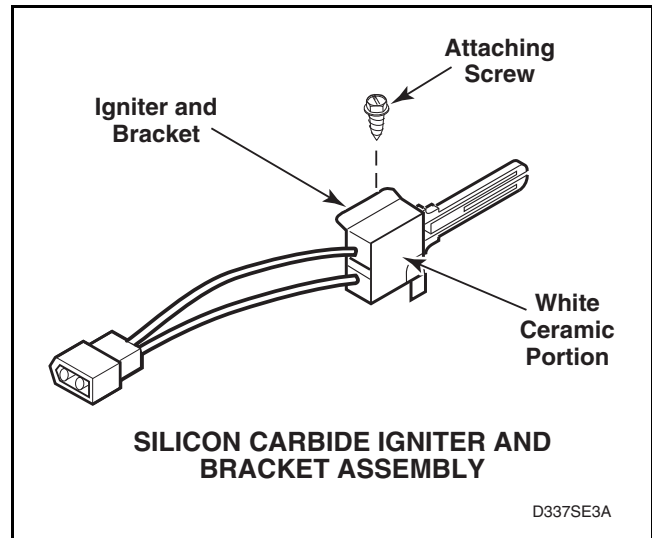

Figure 37
- f. **Silicon Carbide Igniter** – meter should read between 45 – 200 Ohms. Refer to *Figure 37*.